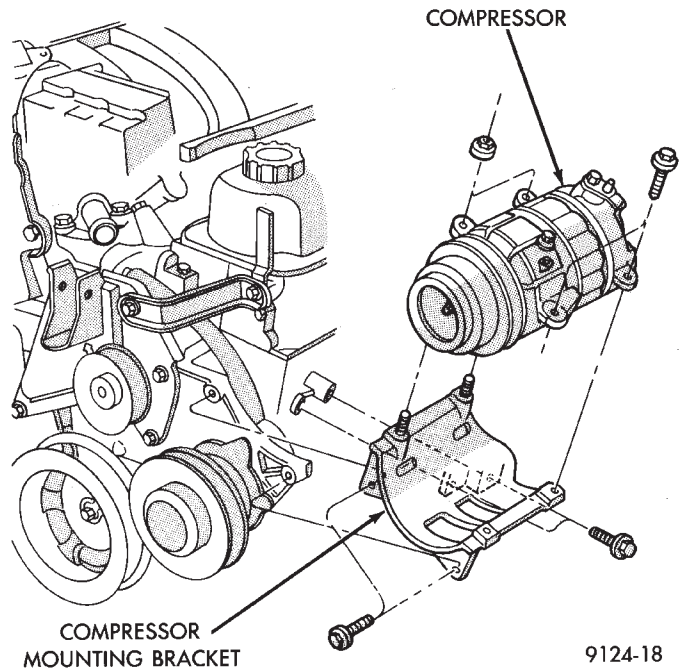

Fig. 1 A/C Compressor Removal and Installation—3.3L Engines
- (1) Disconnect NEGATIVE battery cable.
- (2) Loosen and remove drive belts (Refer to Group 7, Cooling System) and disconnect compressor clutch wire lead.
- (3) Remove refrigerant lines from compressor (if necessary).
- (4) Remove compressor attaching nuts and bolts (Fig. 1, 2 or 3).
- (5) Remove compressor. If refrigerant lines were not removed, lift compressor/clutch assembly and tie it to a suitable component.